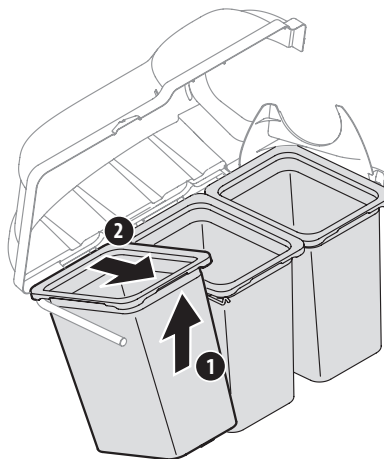

Figure 25
4. Remove the grass bags, as shown in Figure 25, by lifting each bag up (1) and moving the bags away from the bag support assembly (2).